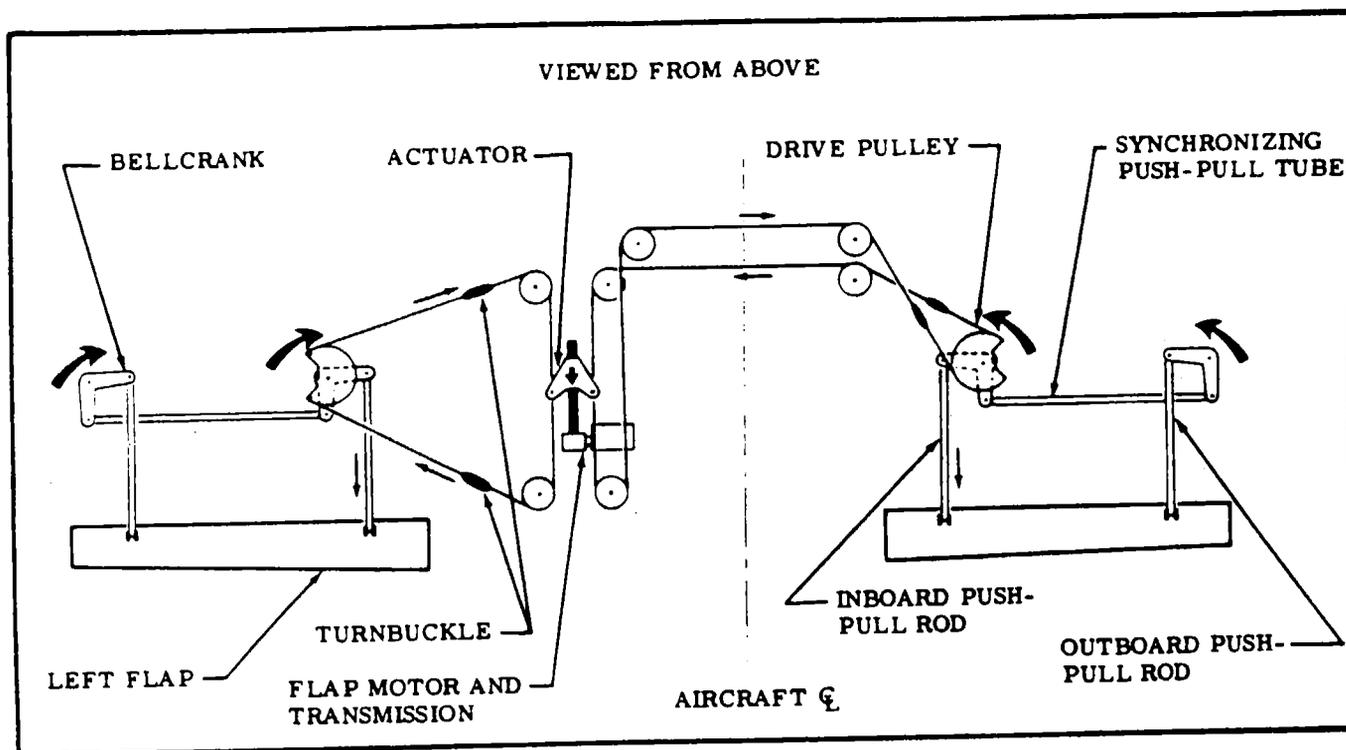

Figure 7-3. Flap System Schematic
- c. Disconnect push-pull rods (17) at drive pulleys (11).
- d. Disconnect push-pull rods (23) at bellcranks (21).
- e. Disconnect synchronizing push-pull tubes (13) from drive pulleys (11) and bellcranks (21).
- f. If cables are being replaced with drive pulleys (11) installed, rotate drive pulleys beyond their normal range of travel to permit cable attachment. If drive pulleys are not installed, it may be easier to attach the cables prior to installing the drive pulleys in the wings.
- f. Attach the 1/8" direct cable to the forward side of drive pulleys and the 3/32" retract cable to the aft side of drive pulleys. (Refer to figure 7-3.)
- h. Adjust synchronizing push-pull tubes (13) to 41.87" between centers of rod end holes, tighten jam nuts and install.
- i. Adjust inboard push-pull rods (17) to 10.81" and outboard push-pull rods (23) to 10.39" between centers of rod end holes, tighten jam nuts and install. These dimensions may vary in order to obtain snug fitting of flap in "UP" position.